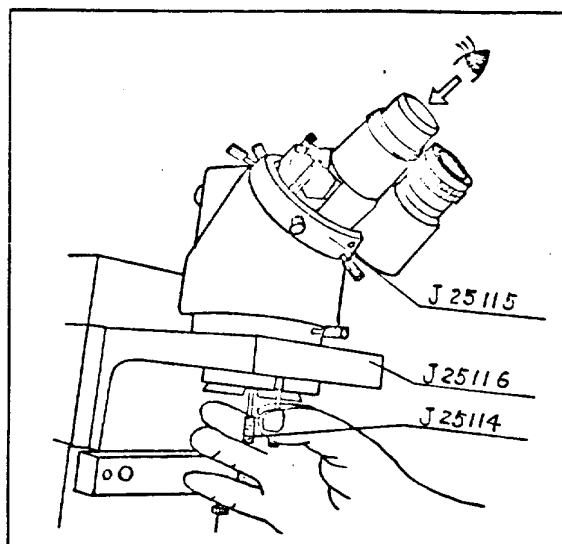

Fig. 19
- ③ (right) and ④ (left), place the erecting prism tool (J25115) on the trinoculars tube (Fig. 19).
- iii) Shift the prism seat ②⑤ (right) and ②⑥ (left) outward (to the erecting prism tool side) as far as it goes slightly releasing the screws ①①c.